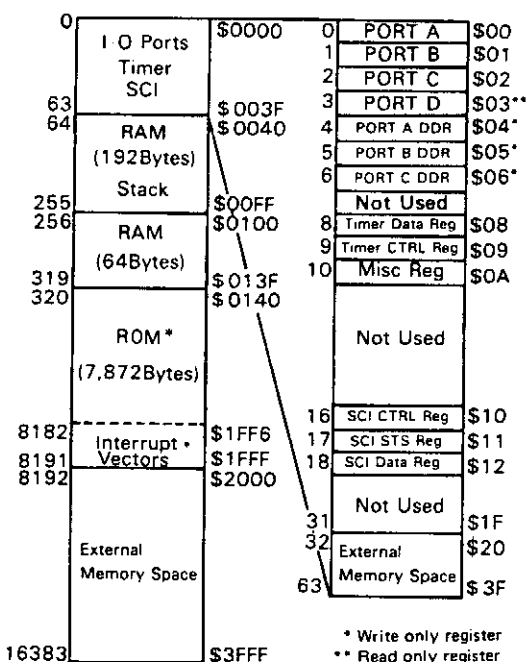
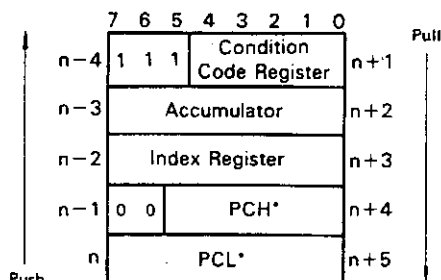

Figure 9 Memory Map of MCU
Figure 10 Sequence of Interrupt Stacking
The memory map of the MCU is shown in Fig. 9. \$0140 ~ \$1FFF of the HD6305Y2 are external addresses. However, care should be taken to assign vector addresses to \$1FF6 ~ \$1FFF. During interrupt processing, the contents of the CPU registers are saved into the stack in the sequence shown in Fig. 10. This saving begins with the lower byte (PCL) of the program counter. Then the value of the stack pointer is decremented and the higher byte (PCH) of the program counter, index register (X), accumulator (A) and condition code register (CC) are stacked in that order. In a subroutine call, only the contents of the program counter (PCH and PCL) are stacked.